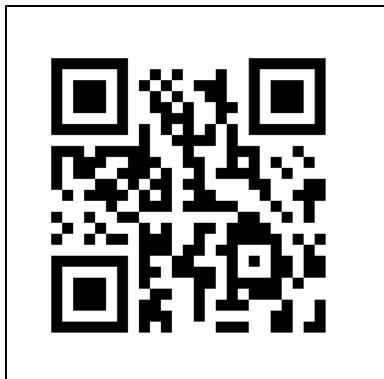

Figure 6
1. Scan the QR code (Figure 6) to open the video. This video demonstrates the installation of this device.